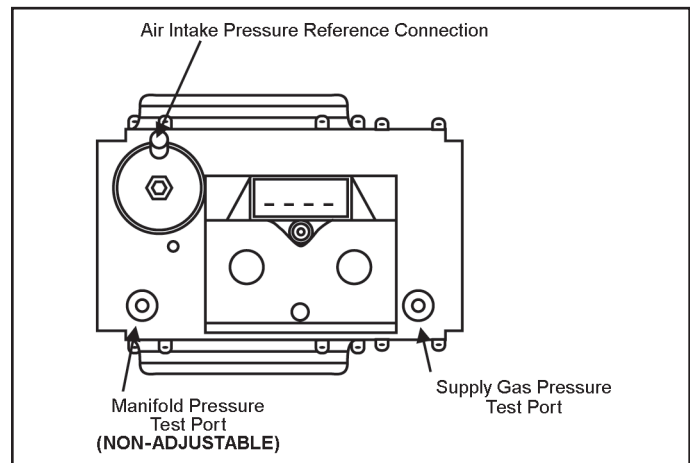

Figure 53
4. Wait five (5) minutes for any residual gas to clear.
5. Connect manometer to the supply gas pressure port on the gas valve see Figure 53.
On the water heaters covered by this manual there are test ports for supply and manifold gas pressure readings on the gas valve. Using a small flat tip pocket screw driver - open the needle valve inside the supply gas pressure test port one full turn only; turn the needle valve screw counter-clockwise to open the valve. Slide the manometer sensing tube over the top of the test port, see Figure 53.